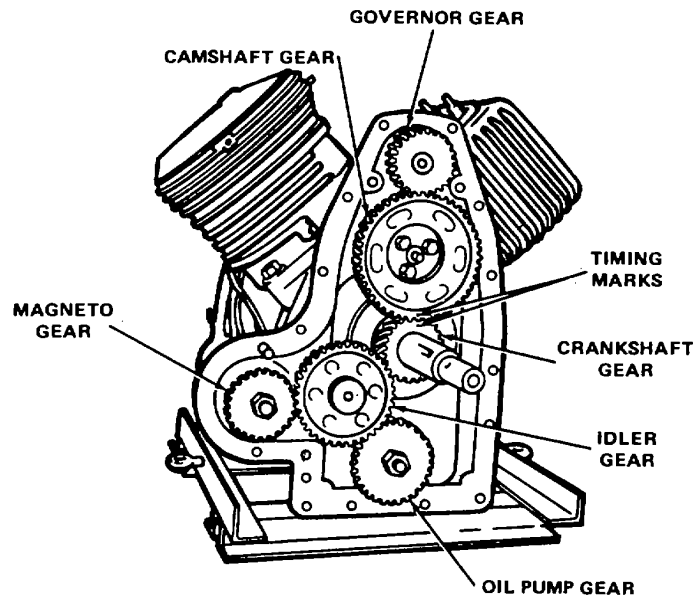

Figure 6-31. Idle Gear and Shaft
- (1) Install thrust plunger and spring into front of camshaft.
- (2) Align camshaft gear with front of camshaft.
- Timing mark on crankshaft gear and camshaft gear must align. See Figure 6-31.
- (3) Secure camshaft gear to camshaft with three 5/16-18" x 1" screws and 5/16" lock washers. Tighten screws to 6-9 lb-ft torque.
- (4) Install thrust button.
- j. Idler Gear and Shaft. (Figure 6-31)